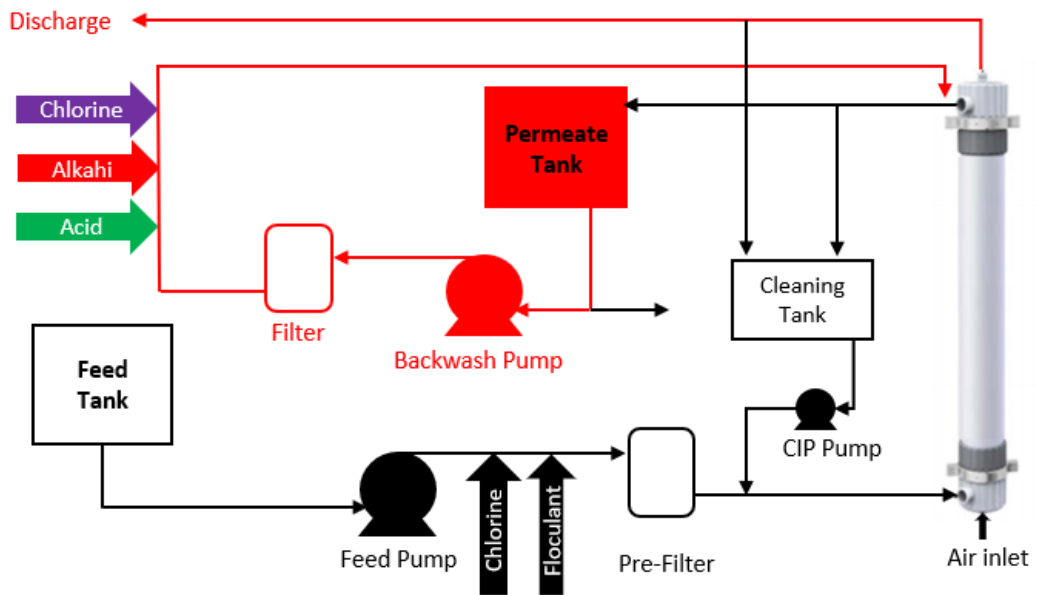

Figure 12. Introduction of chemicals during CEB (top)
3. Chemical dosing during backwash (top and/or bottom backwash; see Figures 12 and 13)